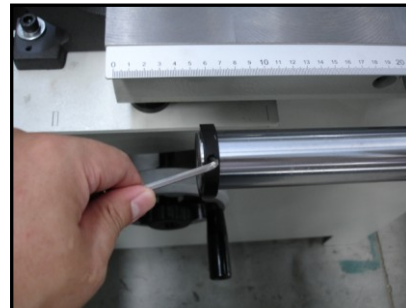

Fig. 13
5. Slide the rip fence body onto the rail, then place the adjustable ring on the sliding table end of the rail and secure the ring with the set screw (Fig. 13)